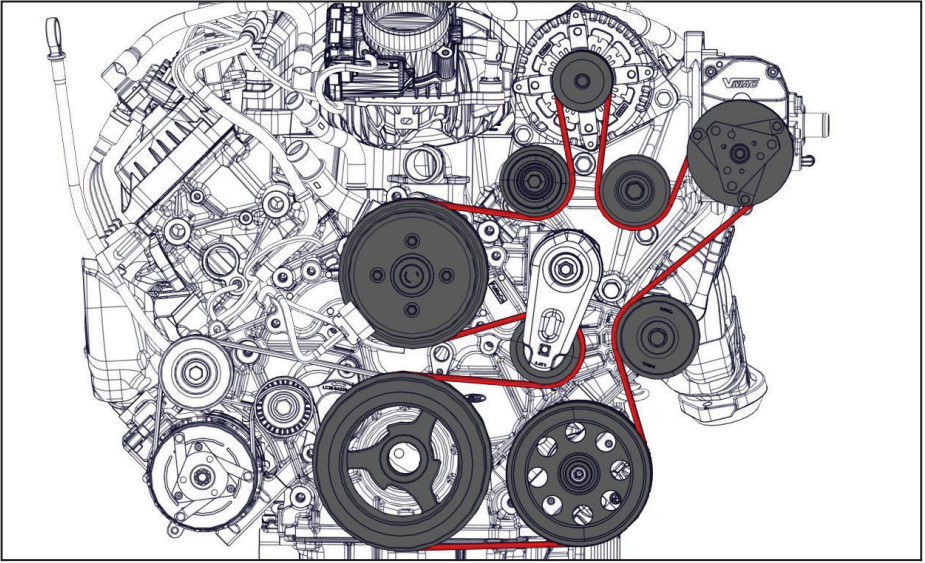

Figure 19 — VMAC FEAD belt routing
- Install and tension the VMAC FEAD belt (Figure 19).